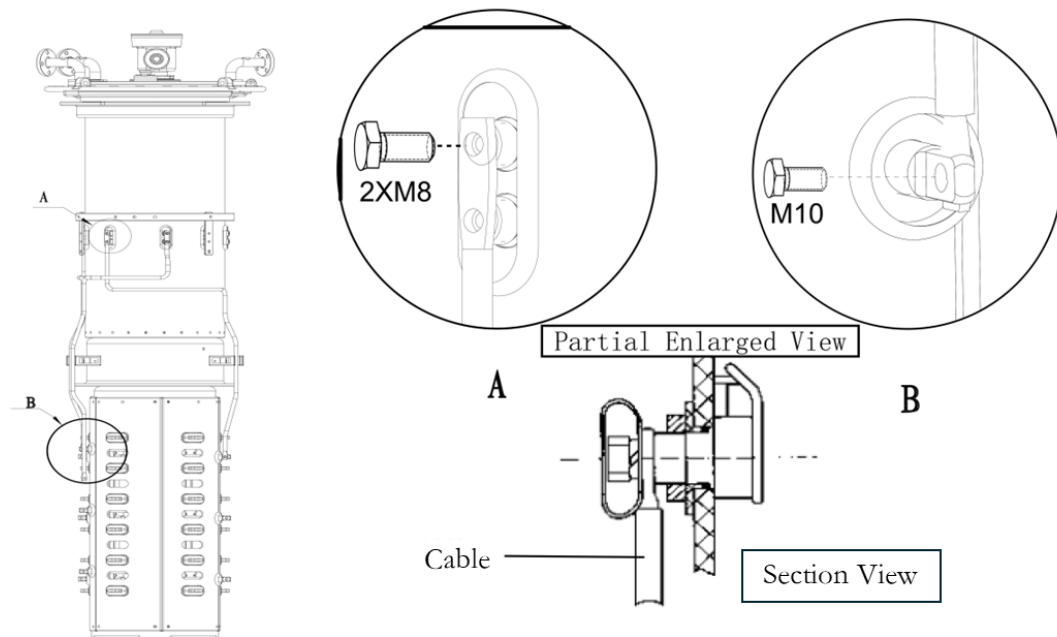

Figure 4.2.7 Tap selector and diverter switch oil compartment odd and even leads connection
- 1) Adhere the leads directly with the contact on the diverter switch oil compartment, and not locate the shielding cap between them (Figure 4.2.7).